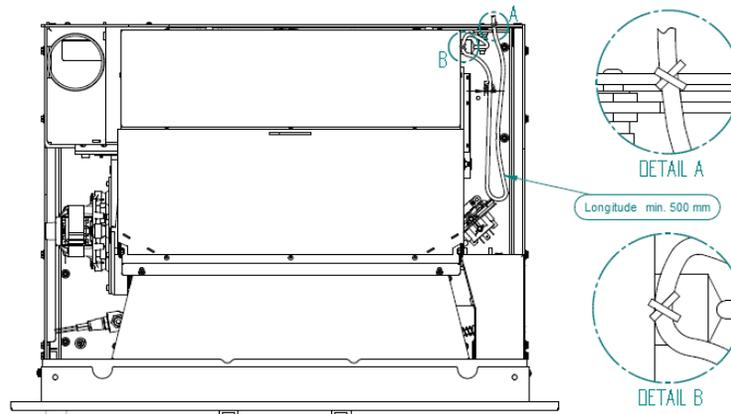

Figure 11 – Electrical connection
- After connecting the power cable to the silo column, it is necessary to attach the cable to the same column and the base, making sure to leave enough cable length, so that the equipment can make the entire route in the rails (500 mm), without the cable being stressed or touching the hot parts (Figure 11).